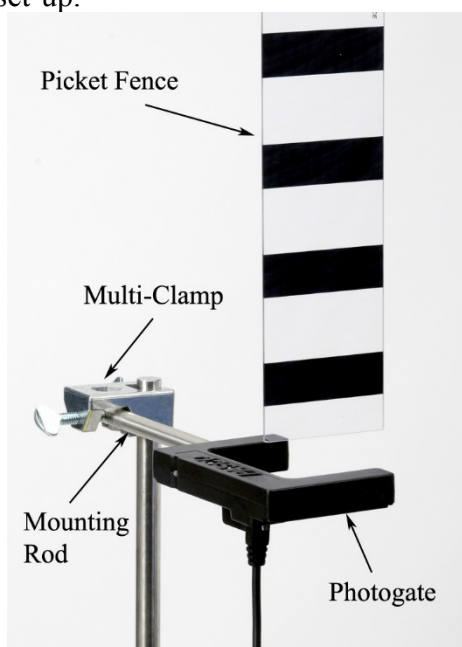

Figure 2. Picket Fence Initial Position
2. Use the Multi-Clamp to fasten the Photogate to the vertical rod. The Mounting Rod (see Fig. 2) screws directly into the side of the Photogate. Make sure that the Photogate is high enough so that the Picket Fence can pass completely through before it reaches the table.